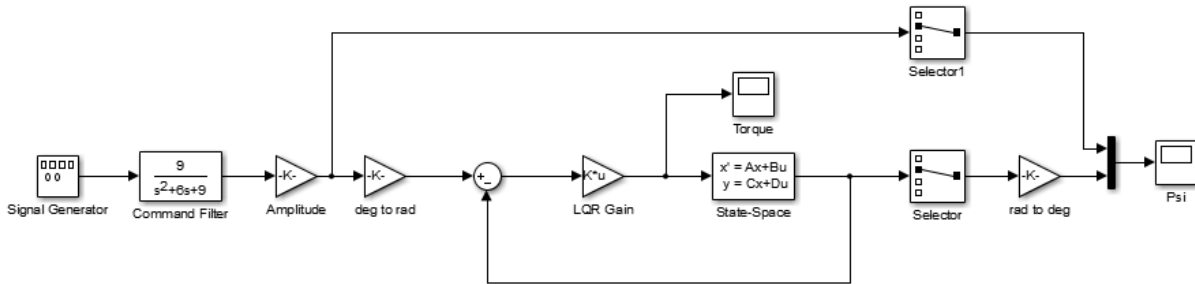

Figure 3.1: Simulink model used to simulate 3 DOF Gyroscope.
In this section we will use the Simulink diagram shown in Figure 3.1 to simulate the closed-loop control of the 3 DOF Gyroscope system. The system is simulated using the model summarized in Section 2.1. The Simulink model uses the state-feedback control described in Section 2.2.4. The feedback gain K is found using the Matlab LQR command (LQR is described briefly in Section 2.2.3).
6. Open the `s_3dgyro_lqr.mdl` Simulink diagram, shown in Figure 3.1.